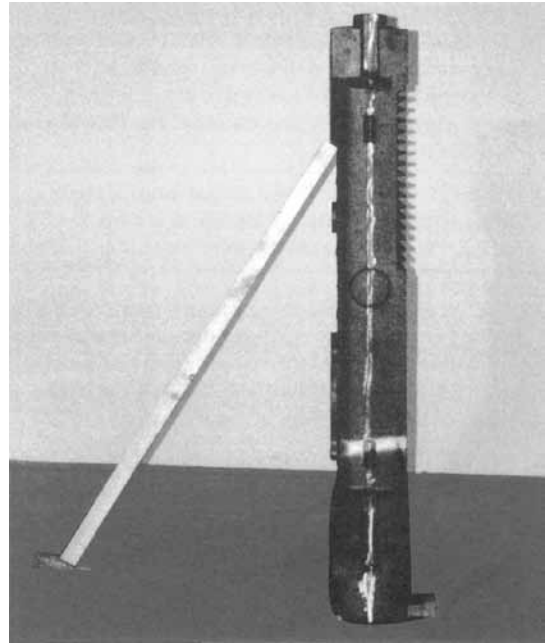

Figure 5: Positioning of Back Section
- a. Place the rear section in its approximate final position, as outlined in Section I, and support it with a suitable prop and wedges. See Figure 5.